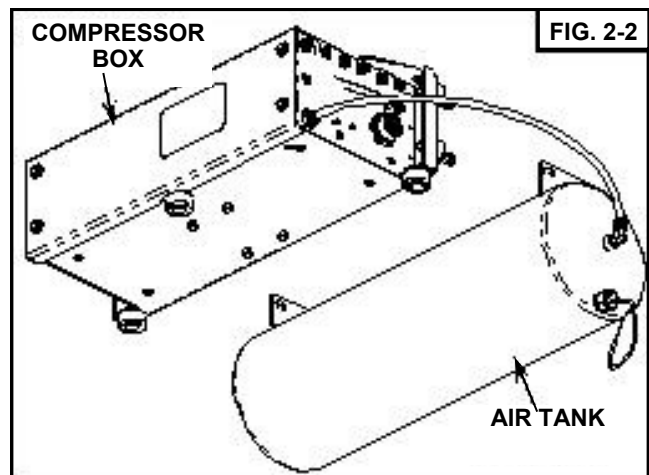

FIG. 2-2
- ❑ Connect the compressor box and air tank with 3/8" DOT airline (see Fig 2-2).